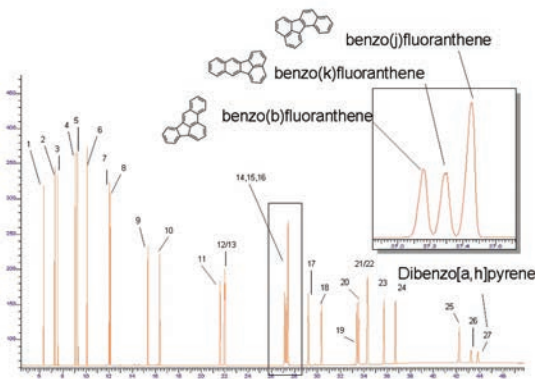

Fig 8. Separations of isobaric fluoranthenes on Rxi-17Sil MS. Full details: [bit.ly/15y7k9h](http://bit.ly/15y7k9h)
Chromatographic separation is essential. Specific examples are the separation of benzo-fluoranthene isomers and the separation of chrysene-triphenylene. Increasing the Silphenylene content (for example, as in Rxi-17Sil MS, see Figure 8) increases selectivity for PAHs and provides the highest possible signal-to-noise ratio for trace monitoring; however, it does not offer enough selectivity for the separation of triphenylene-chrysene. Separation of triphenylene-chrysene can be obtained on a Rxi-XLB phase, but only at the expense of fluoranthene separation (5).